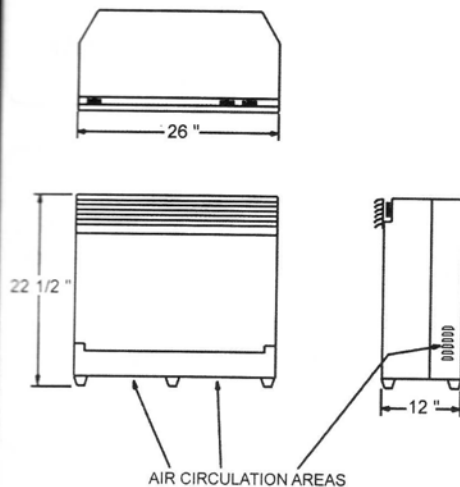

FIGURE 1
- The dimensions of the Fireplace Insert are 26" wide (66cm) X 22 1/2" high (57.2cm) X 12" deep (30.5cm). (FIGURE 1) You may want to leave a clearance around the insert of 1/4" (0.6cm) to ease installation.
- Clearance for air circulation beneath the fireplace insert is provided by three rubber feet (FIGURE 1). DO NOT INSTALL THE FIREPLACE INSERT DIRECTLY ON CARPET OR SIMILAR SURFACES WHICH MAY RESTRICT AIR CIRCULATION. If installing the fireplace in a carpeted area, place a one-piece, solid, flat surface under the fireplace insert. Ensure that all three of the insert's feet rest securely on this surface.